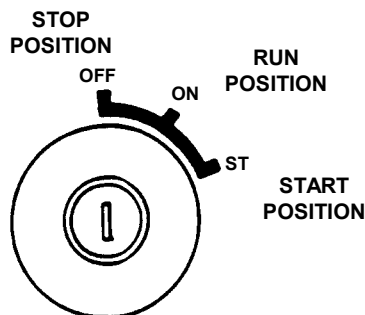

FIGURE 3.7
6. IMPORTANT: (Diesel Engine Only) Use the Glow Plug only if engine is cold or outside temperature is cold. Rotate key counter clockwise to the preheat position (GL letter designation on switch) to allow the glow lamp to heat up. Hold key in the Glow Plug position for a maximum of 5 seconds See Figure 3.7.
7. Rotate key clockwise to the start position until engine starts. See Figure 3.7.
1. Stop engine by turning key to the "OFF" position. Move engine speed control to turtle "SLOW" position and key to "STOP" position. See Figure 3.7.